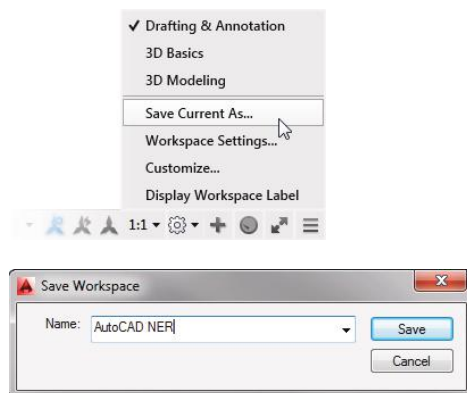

FIGURE 1.27: The Save Workspace dialog box
1. Click the Workspace Switching button on the status bar, and choose Save Current As from the menu, as shown on the top in Figure 1.27. This opens the Save Workspace dialog box, shown on the bottom in Figure 1.27.